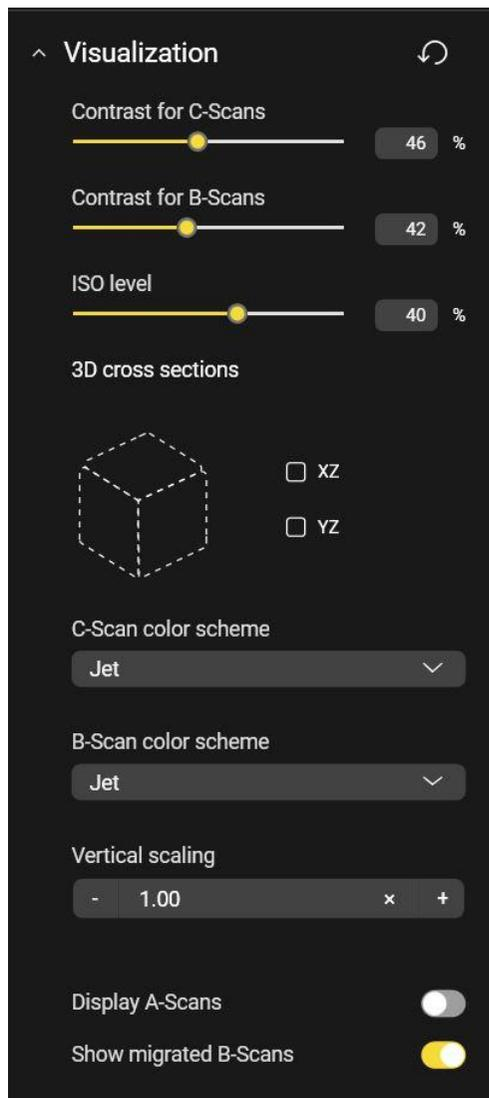

Fig. 32 Visualization Customization Menu
d. **Visualization:** Including Contrast, cross section, colour bars, vertical scaling, A-Scan Display, Application of Migration to B Scans, (Fig. 32).